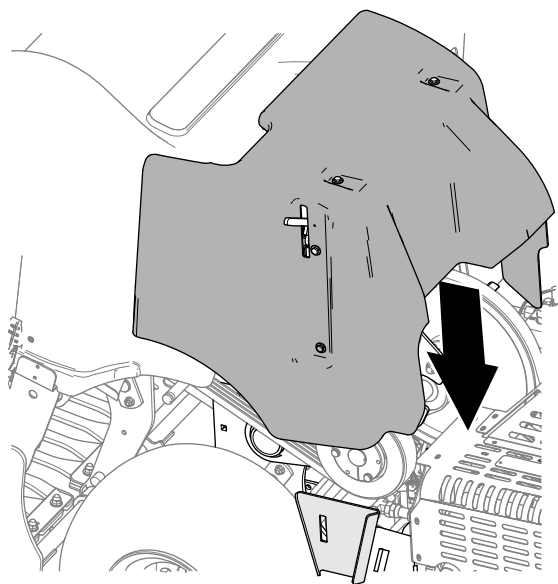

**Figure 134**
2. Lower the belt cover (Figure 134).